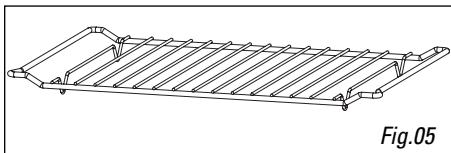

Fig.05
- The grill (Fig.05):** may be used to toast, brown or grill. The grill must under no circumstances be used with other metal containers in the microwave, grill + microwave. You may, however, heat food in an aluminium tray by using a plate to separate it from the grill.